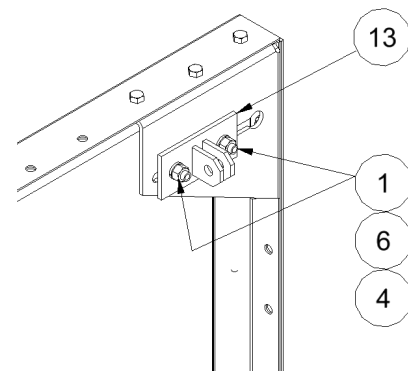

Figure 3
3. Attach the backboard brace brackets, item 13, to the top corners of the backboard as shown in figure 3. Use the 3/8-16 x 1" carriage bolts with lock washer and nuts for this assembly.